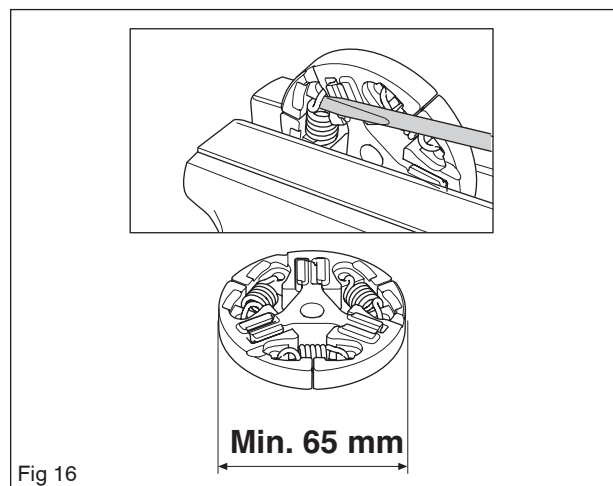

Fig 16
4. Secure the clutch in a vice as shown in figure 16. Carefully remove the clutch springs. Remove the clutch shoe springs from the side that does not have text.
- Check the thickness of the clutch shoes by measuring them with slide callipers across the whole clutch hub. If the thickness is below 65 mm, the clutch must be replaced. See figure 16.